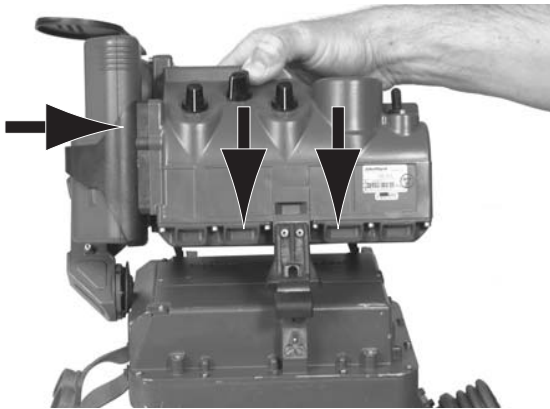

Figure 3-4: Locking the Thermal Imager onto the Firing Post
17. Slide the pins back into the hinges while rotating the thermal imager down until the positioning ball has come into contact with the recess on the firing post, and the toggle fastener has locked over the stop (see Figure 3-4).